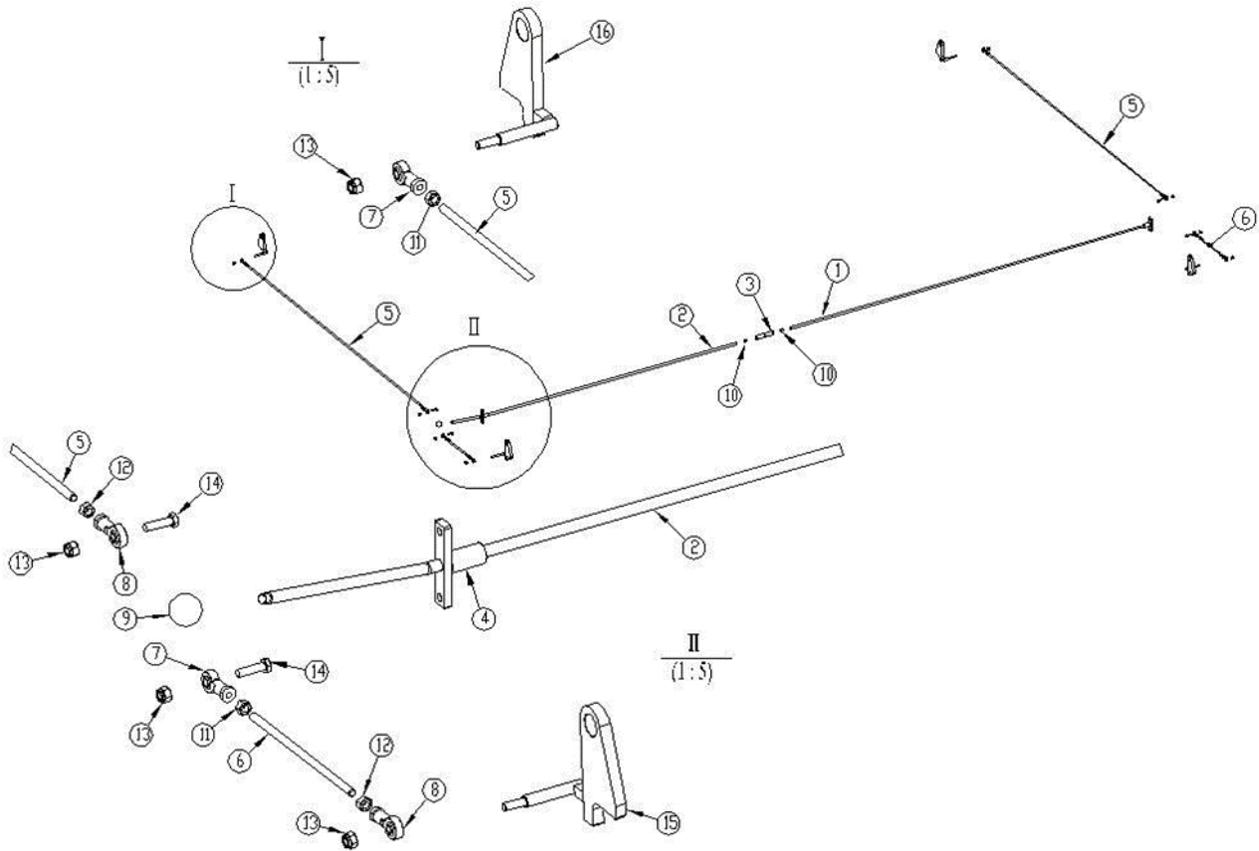

Fig. 19
- Locate the parts in the package and preassembled in the lift referring to the figure 19 and the sheet below;
- Assemble the lock system referring to the figure 19 and tighten the respective screws and nuts;